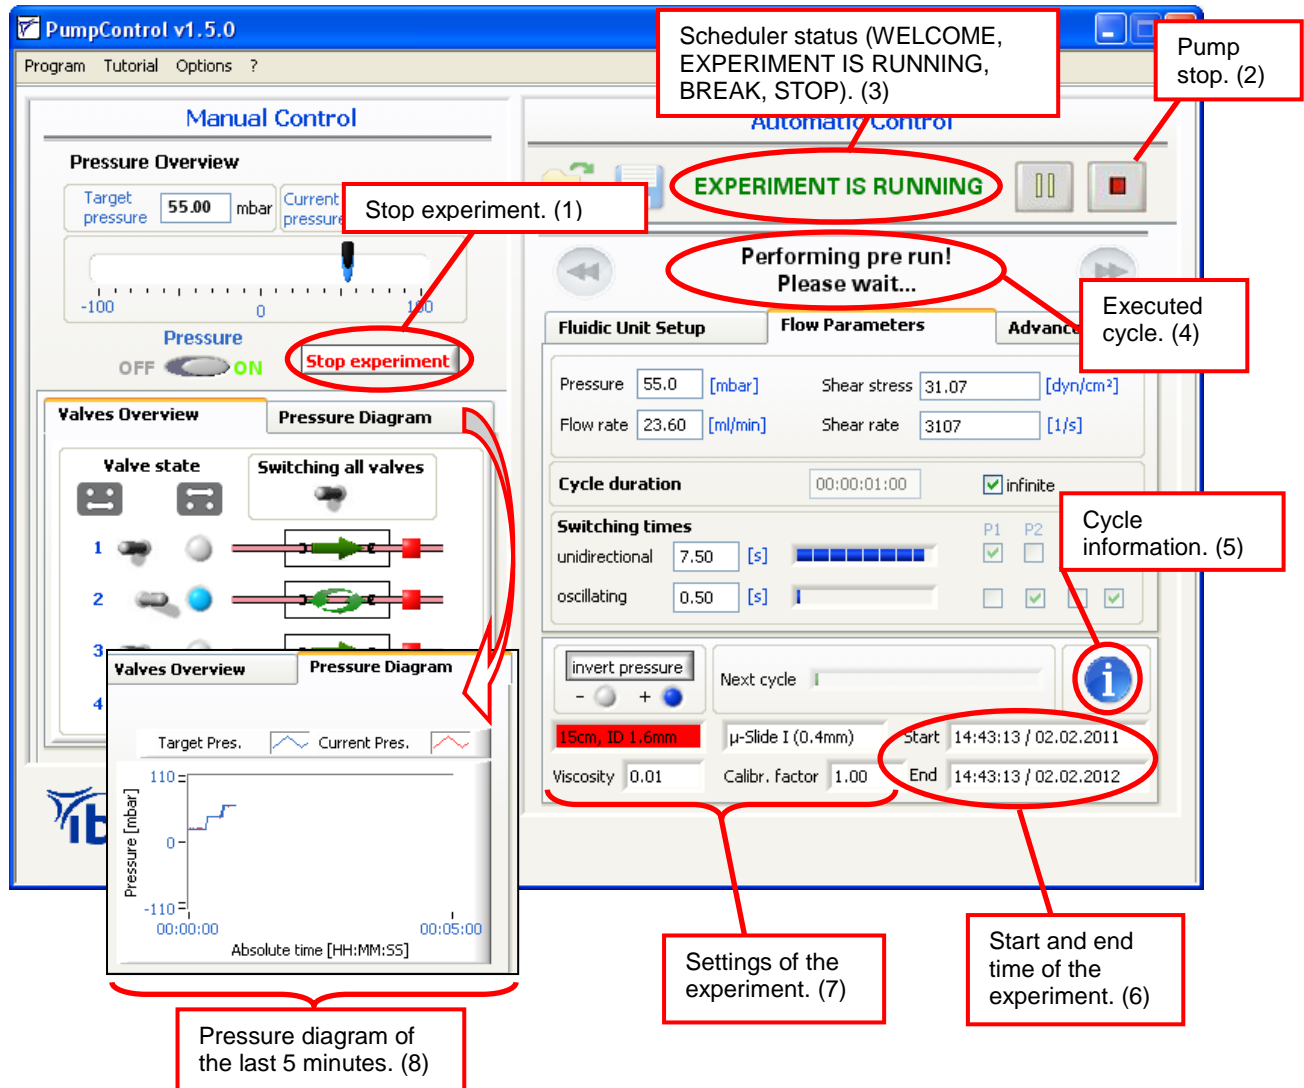

Figure 25: Pump Control During the Course of the Experiment
While the Scheduler is running, the functions are limited in the ibidi Pump. Most importantly, you can still stop the pump immediately by clicking on the 'Stop' button (controls 1 and 2 in Figure 25). You can also find several indicators (3) to (8) that display the current status of the experiment, as seen in the figure below.
The 'i'info button (control 5, in Figure 25) can be opened at any time to view a summary of the Scheduler's current status. This might be useful during longer experiments, to see which cycle and cycle parameters are being executed.